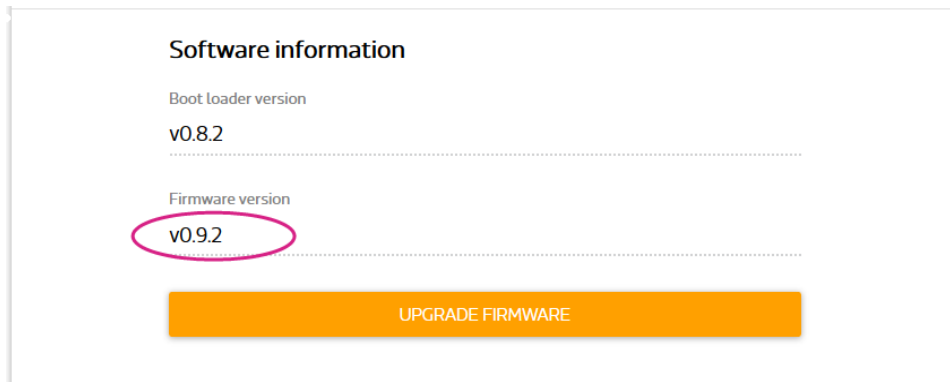

Figure 26 Firmware version
- 6) After a few seconds, the Wi-Fi LED turns off. Use the Wi-Fi utility and scan for the LinkIt_Smart_7688_XXXXXX AP and connect to it. Reload the mylinkit.local webpage. Set a new password and sign in to see the new firmware version in the software information as shown in Figure 26.